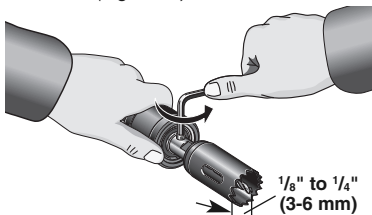

Figure 16 – Installing the Pilot drill
3. Insert the new pilot drill into the shaft so that the tip extends $\frac{1}{8}$ " to $\frac{1}{4}$ " (3 to 6 mm) past the edge of the hole saw, aligning the flat on the shaft of the drill with the set screw (Figure 16).